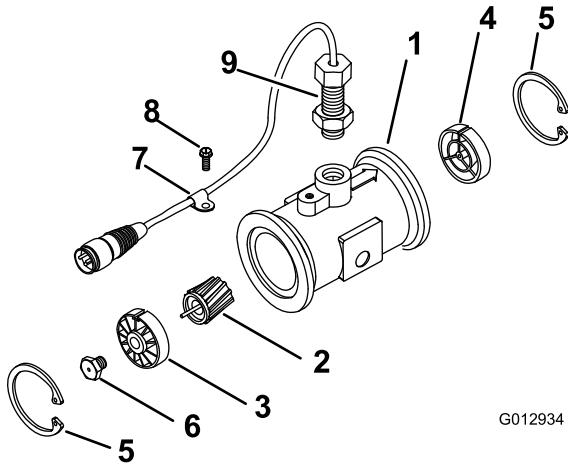

Figure 60
3. Remove the retainer ring on the upstream side (Figure 60).